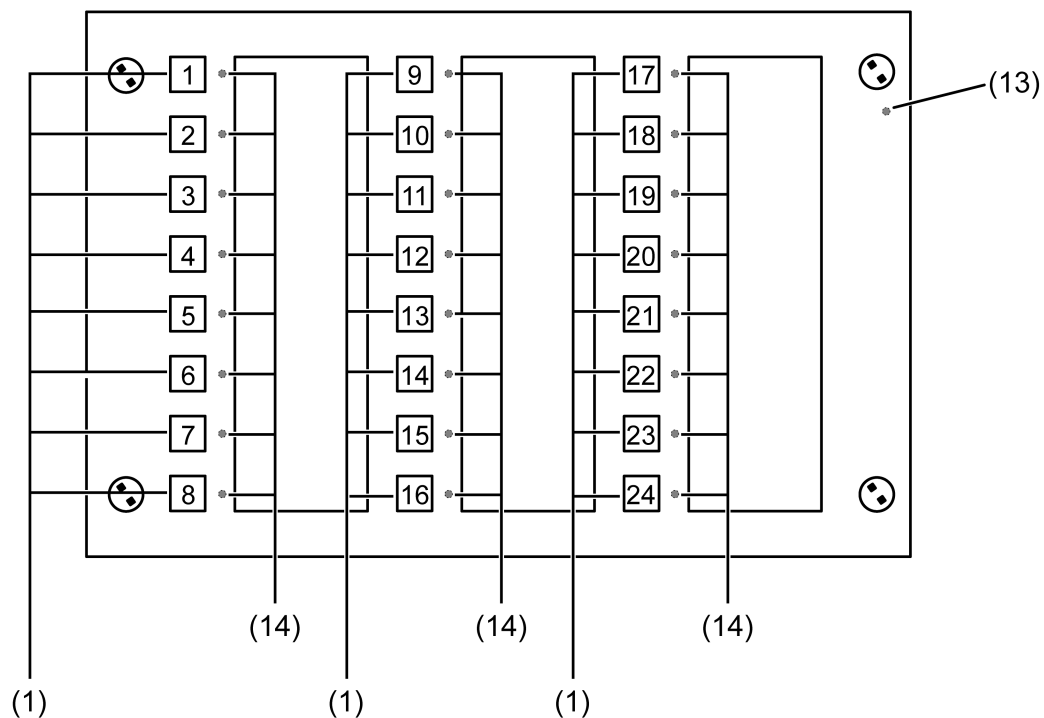

Figure 6: Arrangement of the control surfaces and the LED
The front end of the device consists of 24 control surfaces (1) functionally separated from each other, 24 three-colour LEDs (14) and a programming LED (13). The capacitive control surfaces are behind the screwed on design glass plate and enable operation of the device pushbutton functions (Figure 6).